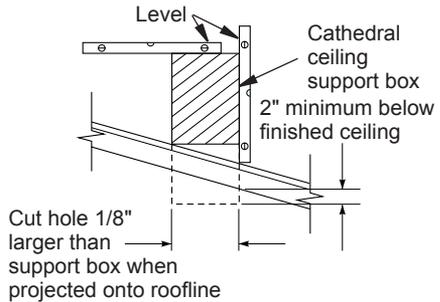

Figure 24 - Cathedral Ceiling Support Box Installation
2. Cut the hole $\frac{1}{8}''$ larger than the support box outline (see Figure 24).
3. Lower the support box through the hole in the roof until the bottom of the box extends at least 2" below the ceiling (see Figure 24). Align the support box vertically and horizontally using a level. Temporarily tack the support box in place through the inside walls and into the roof sheathing.